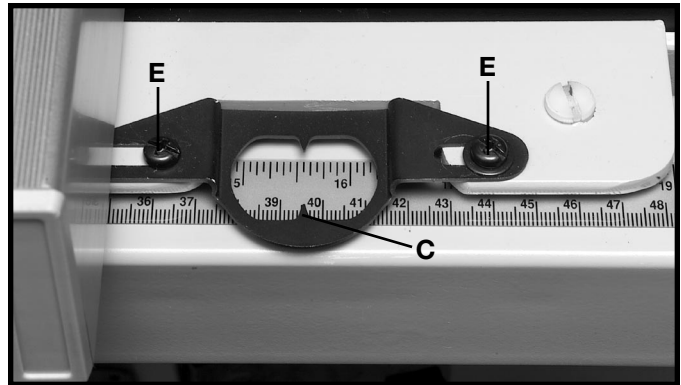

Fig. 13A
The distance the fence is positioned away from the blade is indicated by the pointer (C) Fig. 13A. If it is necessary to adjust the pointer (C), make a test cut with the fence locked in position. Measure the width of the finished cut and adjust the pointer (C) by loosening the two screws (E) and moving the pointer (C) to the same marking on the scale as the finished cut. Then tighten the two screws (E).